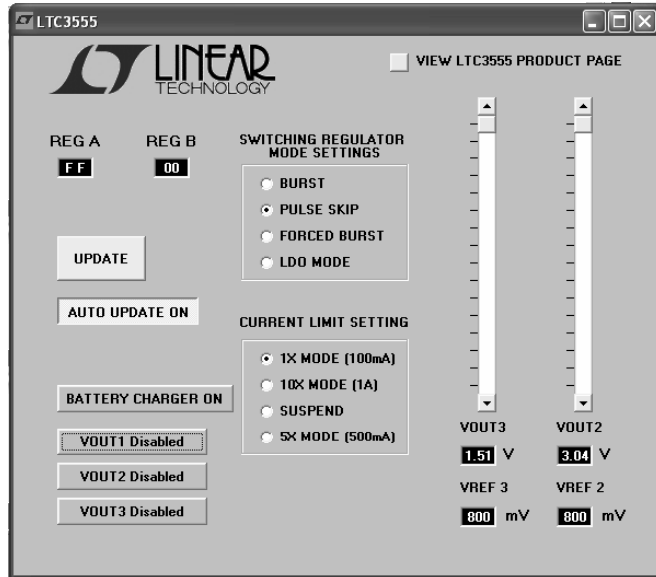

FIGURE 1: Graphical User Interface Demonstration Software for DC1020.
1. After following the software installation procedure in the DC590 Quick Start Guide, connect the DC1020, the DC590 and the Host PC as shown in Figure 1. The following demonstration software should pop-up as soon as the DC1020 board is connected to the Host PC.